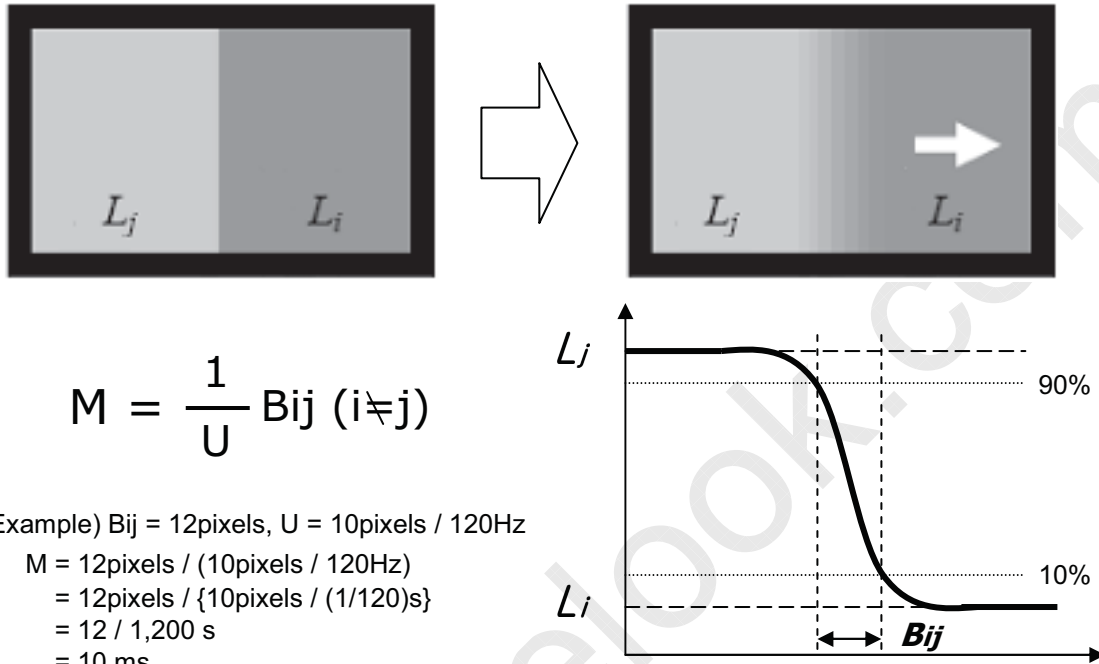

FIG. 4 MPRT
5. MPRT is defined as the 10% to 90% blur-edge width Bij(pixels) and scroll speed U(pixels/frame)at the moving picture. For more information, see FIG 4